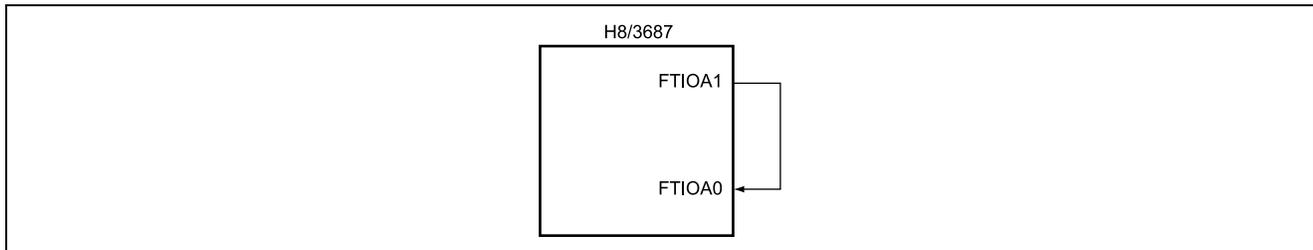

Figure 1.1 MPU Connection for Timer Z Cascade Operation
1. Timer counters 0 and 1 (TCNT0 and TCNT1) of timer Z are connected in cascade to operate as a 32-bit free-running counter. Figure 1.1 shows the MPU connection for cascade operation.